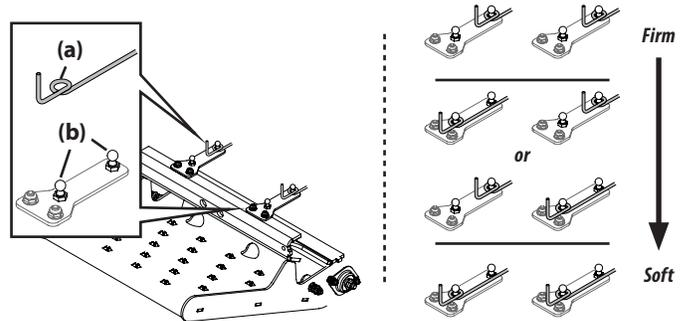

Figure 8
The mower operator's platform suspension firmness is adjustable. Moving the two adjustment rods to one of four combinations (Figure 8 Inset) will provide a firmer or softer operator's platform suspension.
**NOTE:** Refer to Figure 8 inset to see the stop position locations for the desired suspension firmness.